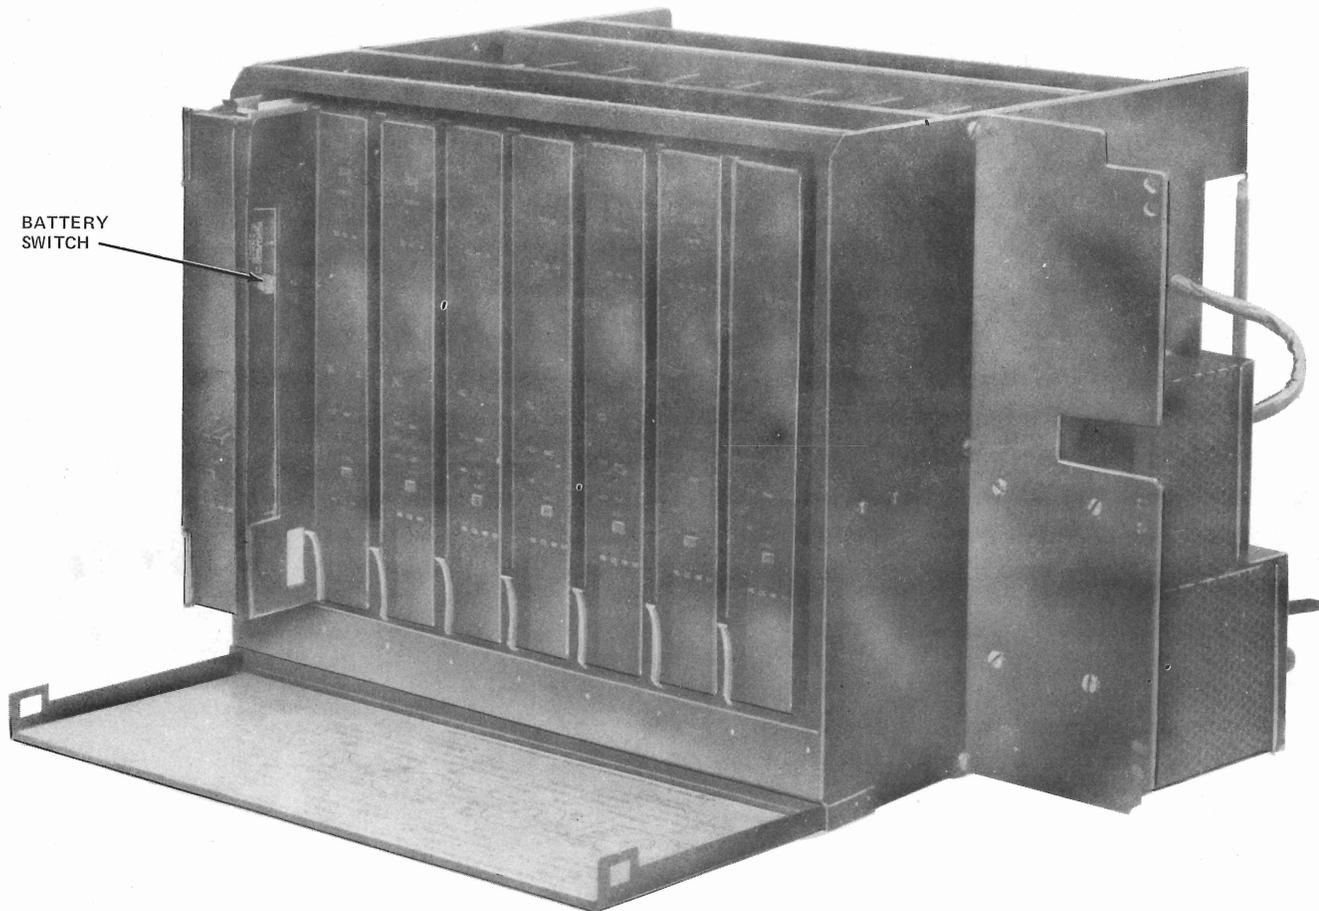

Fig. 4—64A1 Data Mounting (Shown With Panel Lowered)
2.03 The 64A1 data mounting (Fig. 4) measures 19 or 23 inches wide, 15.4 inches deep and 14 inches high and weighs 52 pounds equipped with a 290A1 power unit without data sets installed. The 64A1 data mounting can house up to eight data sets with a mixture of any of the private line data set types being allowed. The maximum power dissipation of a 64A1 data mounting fully loaded is approximately 600 watts. The mounting is equipped with brackets on each side allowing it to be mounted in 19- or 23-inch relay racks or cabinets. A maximum of four 64A1 data mountings can be installed in a KS-20018,L15 cabinet. In addition to housing a maximum of eight data sets, the mounting also houses a common circuit board. A 290A1 power unit is mounted on the side of the 64A1 data mounting in a 23-inch rack and above or below the data mounting in a 19-inch rack. Mounting the power unit in a 19-inch rack requires the following three items (each ordered separately): A mounting plate (comcode 842989451), a data set power extension cord (comcode 842989469), and a fan power extension cord (comcode 842989477). The 290A1 power unit supplies 36 Vac power through a fuse, transformer, and backplane buss to data sets in positions 1, 3, 5, and 7, and through another fuse, transformer, and backplane buss to data sets in positions 2, 4, 6, and 8. Located in the bottom of the mounting are three fans that are used to remove heat from the mounting. The fans are also powered by the 290A1 power unit through a separately fused 117 Vac outlet. The
be lowered (Fig. 4) when installing and removing data sets and when gaining access to the switches on the data set faceplates. A write-on plastic strip is included on the panel to note line and circuit numbers.
The battery is nickel/cadmium and provides power to the volatile memory in the data set to prevent loss of data set options and network addresses when power is lost or removed from the data set. One of the switches on each data set is a 2-position rocker DIP switch that connects the battery to the data set circuitry (Fig. 4). This switch is turned on when the data set is installed. When this switch is on the battery can be charged and power can be provided to the volatile memory when power is lost or removed. The remaining switch or switches is a DIP switch used to set the rise time option (fast or slow) for the data set interface(s).